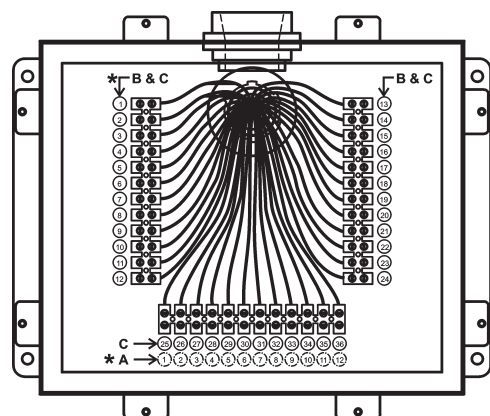

Figure 4-16
- 4.10.3 Factory installed cable is wired with ring one (the ring closest to the drive collar) designated as ground, wired with the green cable conductor. **See Figure 4-16.**